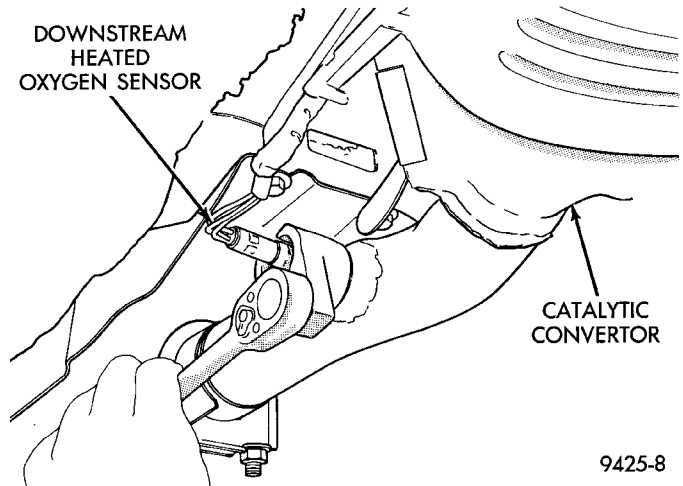

Fig. 102 Downstream Heated Oxygen Sensor Removal/Installation
- (1) Raise vehicle.
- (2) Disconnect electrical connector from sensor.
- (3) Disconnect sensor electrical harness from clips along body.
- (4) Remove sensor using an oxygen sensor crow foot wrench such as Snap-On tool YA8875 or equivalent (Fig. 102).
- (5) After removing the sensor, the exhaust manifold threads must be cleaned with an 18 mm X 1.5 + 6E tap. If reusing the original sensor, coat the sensor threads with an anti-seize compound such as Loctite® 771-64 or equivalent.
- (1) Install sensor using an oxygen sensor crow foot wrench such as Snap-On tool YA8875 or equivalent (Fig. 102). Tighten the sensor to 28 N·m (20 ft. lbs.) torque.
- (2) Connect sensor electrical harness from clips along body.
- (3) Connect electrical connector from sensor.
- (4) Lower vehicle.